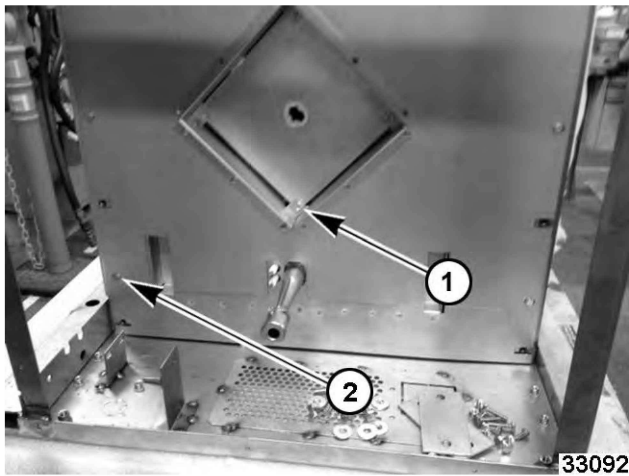

Fig. 17
8. Remove inner right hand side inside (1, Fig. 17) and outer (2, Fig. 17) mounting screws.